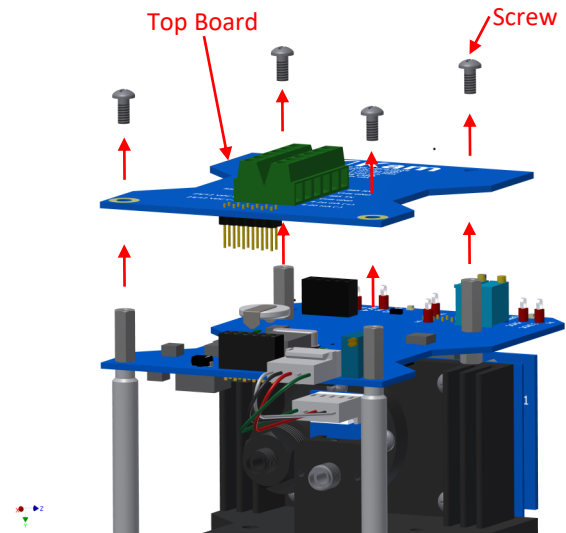

Figure 1.3.2
2. Remove the four (4) 4-40 x 1/4" Pan Phillips Screws from the top board of the new electronics assembly and uninstall it. See figure 1.3.2.